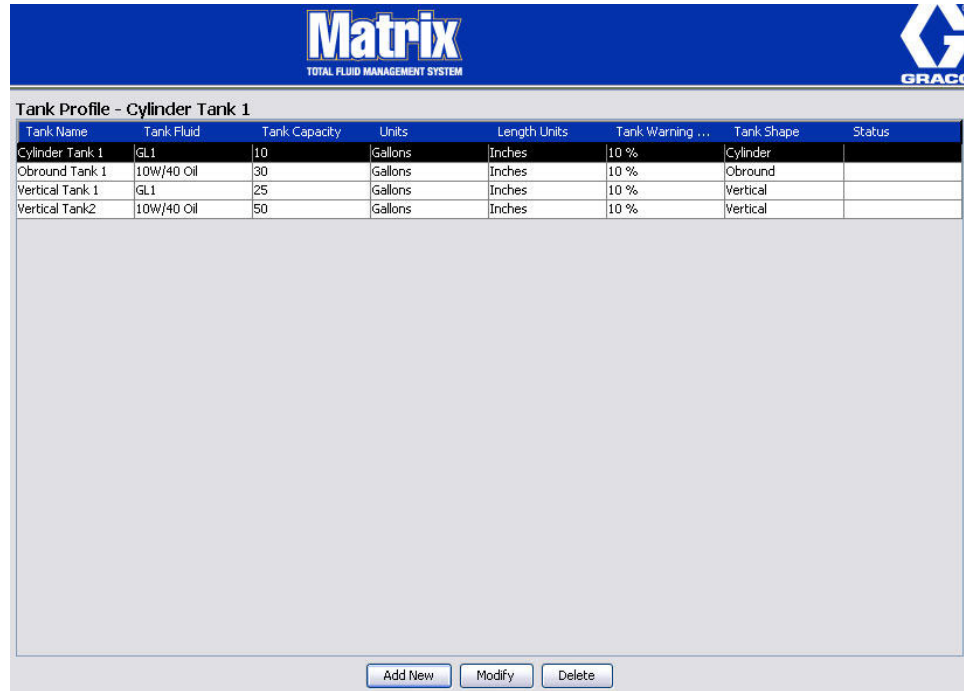

FIG. 104
- Click the Modify button shown in FIG. 104 to display the Edit Tanks screen. When you have finished making changes, click OK to close the screen and save the changes.
- To permanently delete a Tank from the list, on the main Tanks screen, highlight the item you no longer want on the list. Then click the Delete button (FIG. 104).